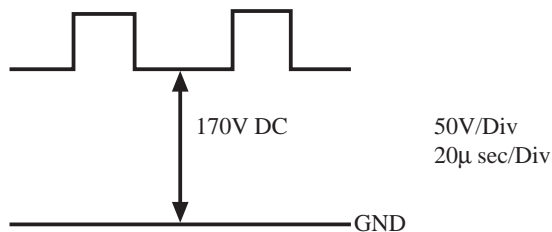

Fig 2-1
- (1) Short the IC501 Pin2 and Pin5 (or 11) and set the screen in single horizontal line.
- (2) Set the TV to the external input mode (no input).
- (3) Connect an oscilloscope to TP901 (JW901) Pin9 of S901 (on the NK C.B.).
- (4) Adjust SFR302 (Sub-bright) so the voltage at TP901 (JW901) Pin9 of S901 is $170 \pm 5\text{VDC}$. (See Figure 2-1)
- (5) Adjust the SCREEN VR (FBT) so that a horizontal line begins to appear at the center of the screen.
- (6) Release the short-circuit point.